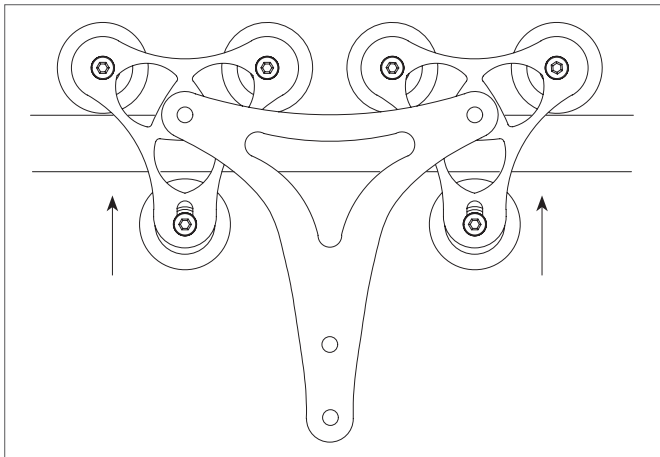

Figure 7
12. Adjust the lower wheels by loosening the nuts on the wheel and sliding the wheel up until the interior groove makes contact with the track. Tighten the nuts (Figure 7).